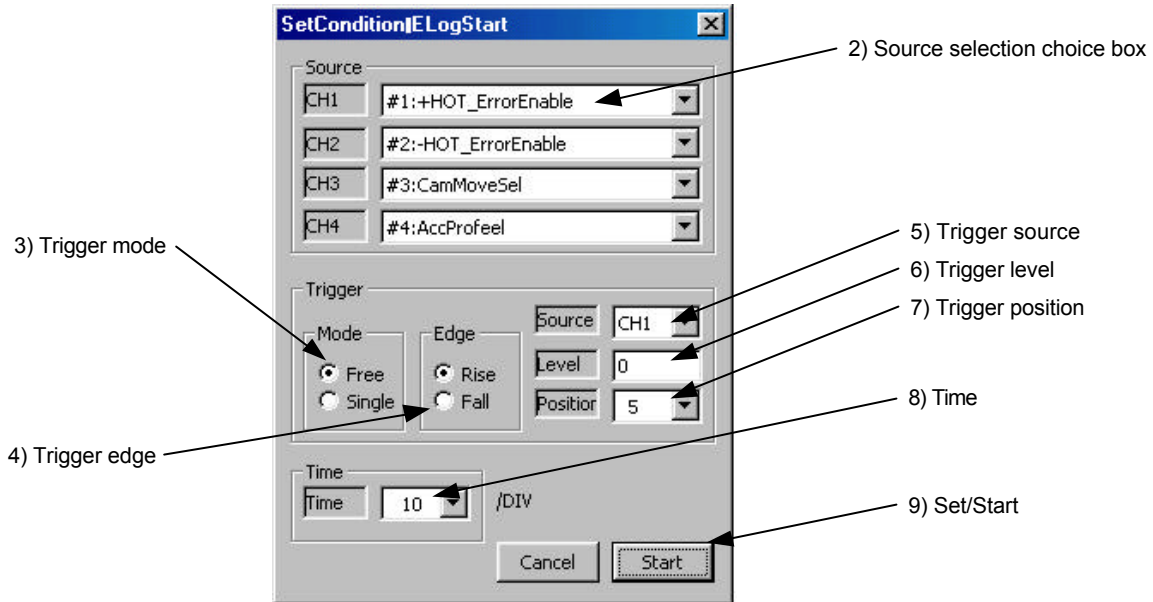

Figure 7.19 “SetCondition/ELogStart” dialog box
- (1) Click **“Log Start”** on the **“Oscilloscope”** dialog box to display the **“SetCondition/ELogStart”** dialog box (see Figure 7.19).